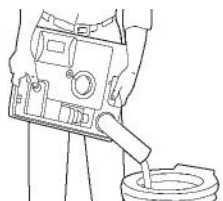

Figure J11: Emptying Waste Holding Tank
5. Carry the waste holding tank to any permanent toilet facility. Rotate the pour-out spout to the desired position. Remove the cap. Depress the air relief valve with your thumb while emptying (Figure J11).